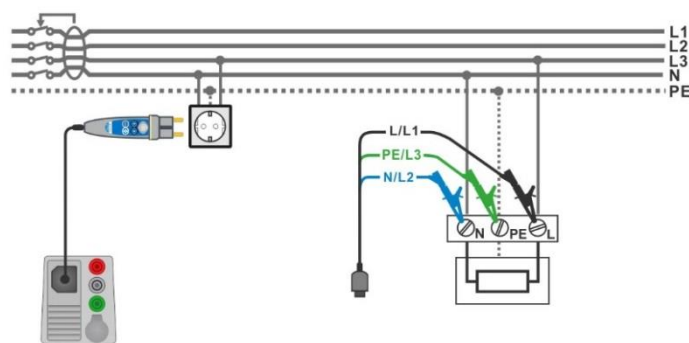

Figure 7.47: Connection of Plug commander and 3-wire test lead
- Connect 3-wire test lead or Plug commander to the object under test, see **Figure 7.47**.